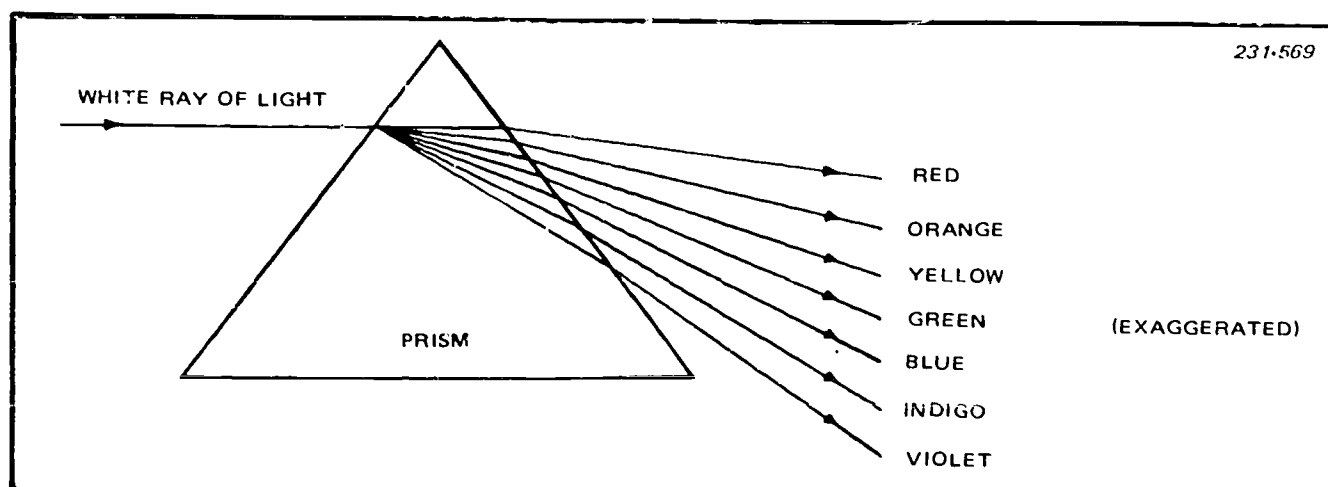

Figure 1-3. Dispersion of light.
**Dispersion.** Dispersion is the separation of light into its individual colors. A prism can be used to separate white light in this manner (fig. 1-3). In nature, the water droplets that make up a rainbow cause dispersion of light. A camera lens would also disperse light if it were not corrected to prevent dispersion. Dispersion is undesirable for most photographic purposes. Through the years, however, lens manufacturers have practically eliminated the occurrence of dispersion; therefore you do not need to be too concerned with dispersion.